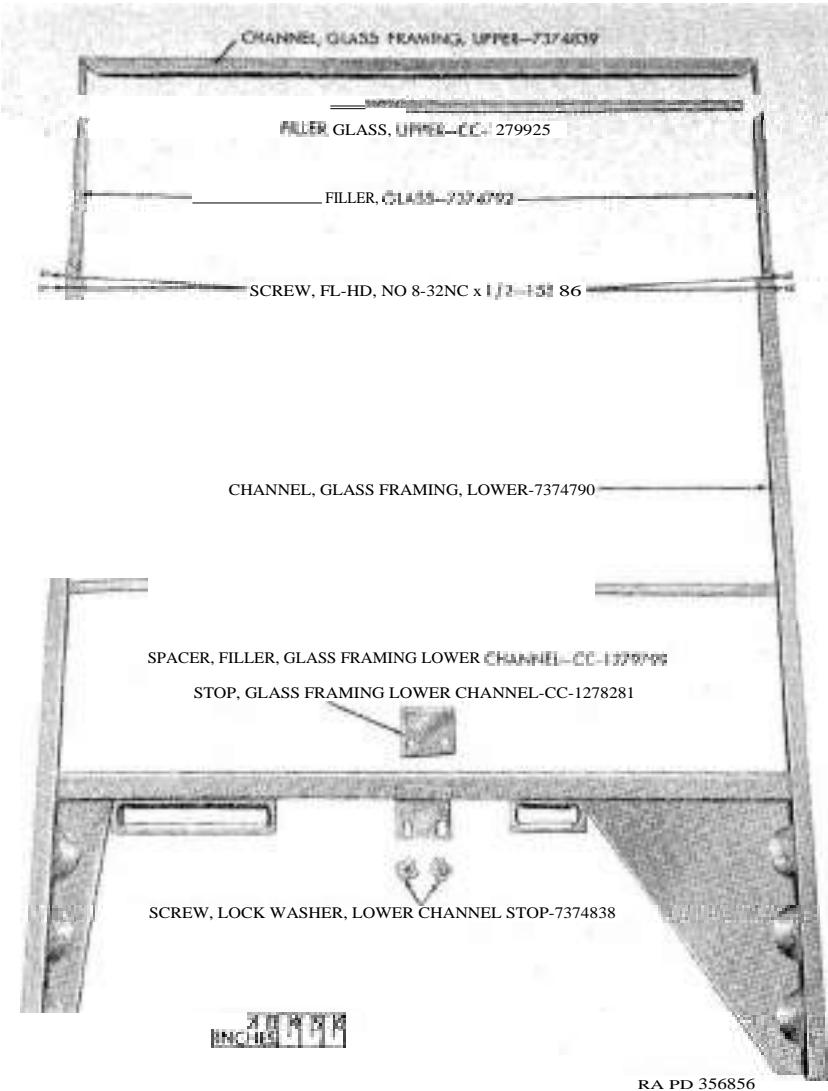

Figure 183. Doer glass framing channels and related parts.
- (1) Lower door glass and remove the two lower channel stop lock washer screws and glass framing lower channel stops (*fig. 183*).
- (2) Remove lower channel-to-regulator retainers (RR and SS). Disengage left regulator assembly (PP) from glass framing lower channel assembly. Raise glass assembly by hand and lift from opening at top of door.
- (3) Remove four nuts, lock washers, and glass lower stop lock washer screws (HH). This will release the glass lower stops (GG) from door.
- (4) Remove door glass panel weatherstrip assemblies (B) from top opening of door by disengaging the snap-on-type fasteners.
- (3) Remove and discard glass upper filler and glass filler.
j. *Remove Glass Framing Lower Channel Filler Spacer* (fig. 183). Remove glass framing lower channel filler spacer from glass framing lower channel. Discard spacer.
- (1) Inspect female dovetail blocks (S) for wear or cracks. If either of these conditions exist, replace blocks.
- (2) Inspect female dovetail springs (T) for distortion or breakage. If either of these conditions exist, replace springs.
h. Inspect Door Weatherseals and Upper Hinge Pillar Weatherseals. Inspect door weatherseals (Q) and upper hinge pillar weatherseals (C) for deterioration or looseness. If weatherseals are deteriorated, install new seals. If weatherseals are loose at any point, cement them to door as required.
i. Inspect Glass, Glass Framing Upper Channel, and Glass Framing Lower Channel (fig. 183) .
- (1) Inspect glass for cracks or discoloration. If glass is cracked or there is evidence of discoloration, replace glass.
- (2) Inspect glass filler and if there is evidence of water leakage, replace filler.
- (3) Inspect glass framing upper channel and glass framing lower channel for damage, corrosion, broken welds, or distortion. If any of these conditions exist, replace channels as required.